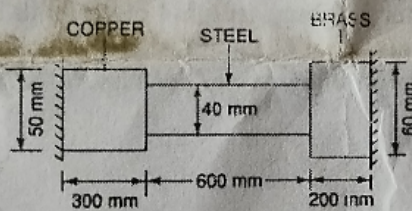

Figure 01
- B) A composite bar made of copper, steel and brass is rigidly attached to the end supports as shown in figure 01. Determine the stresses in the three portions of the bar when the temperature of the composite system is raised by 70°C when